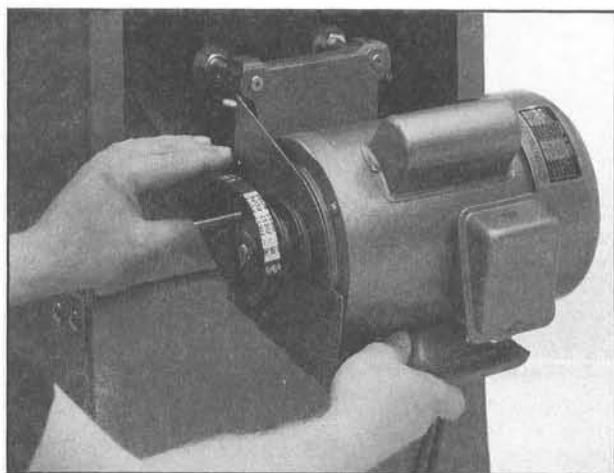

Figure 14.
6. Lift the motor up and slip the V-Belt over the grooves in the pulleys. Slowly let go of the motor allowing its weight to add tension to the V-Belt. **Figure 14.**